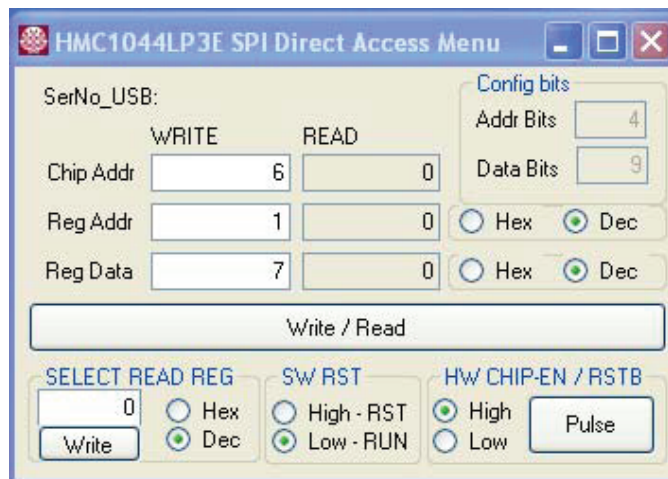

Figure 6. Direct SPI Access
- “Direct SPI Access” button in the ‘HMC1044LP3E or HMC1045LP3E Main GUI’ provides direct register read/write capability (Figure 6).